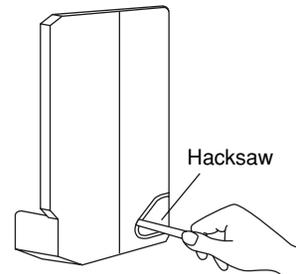

Fig. 3-50
- (b) Cut out the L-shaped tubing outlet using a hacksaw. (Fig. 3-50)